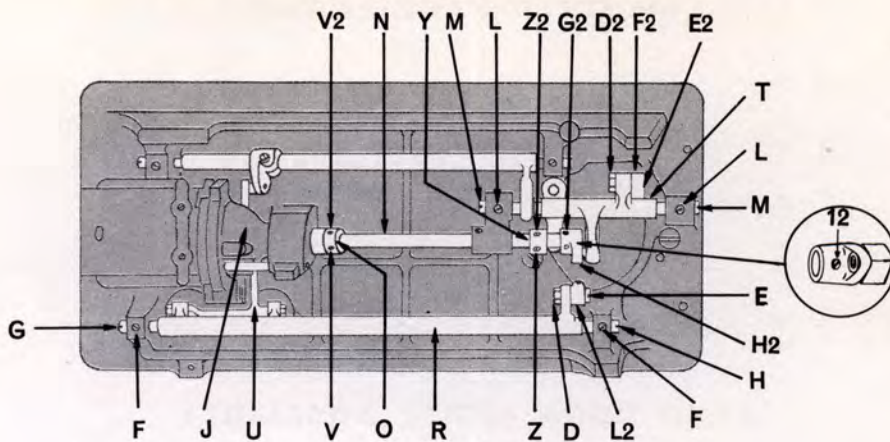

Fig. 26.
#### REMOVAL: (See Fig. 26)
4. Turn hand wheel over toward you until oscillating shaft crank set screw 12 appears (see inset, Fig. 26).
**REMOVAL:** (See Fig. 26)
**PREMOVAL:** (See Fig. 26)